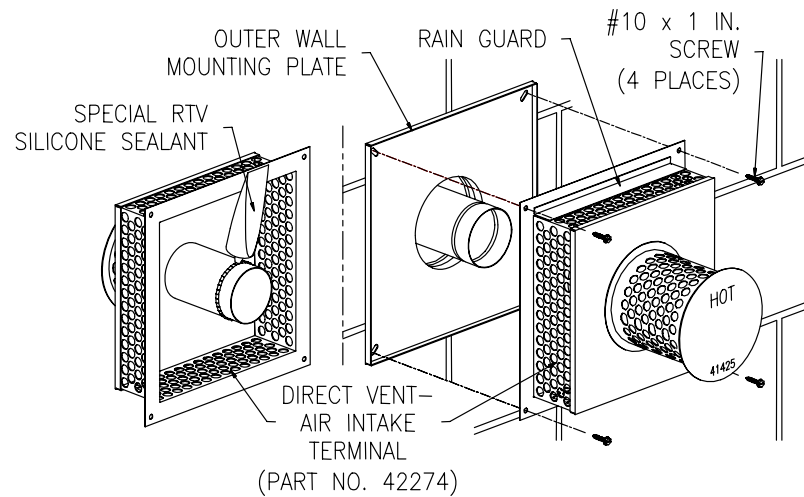

Figure 14.
10. Using the supplied special RTV silicone sealant, apply a bead one (1) inch (2.5 cm) from the end of the four (4) inch (10.2 cm) diameter tube that is part of the vent-air intake terminal. Slide the direct vent-air intake terminal into the four (4) inch (10.2 cm) diameter telescopic tube that extends through the wall and position it so it is flush with the outer wall mounting plate. Make sure that the rain guard and the word "HOT" on the end of the direct vent-air intake terminal are oriented properly. Secure the direct vent-air intake terminal to the outer wall mounting plate and wall with four (4) #10 x 1 inch screws (supplied) (See Figure 14). Note: Certain construction of walls may require the use of different type of anchoring means than supplied. **DO NOT** modify the direct vent-air intake terminal or outer wall mounting plate.